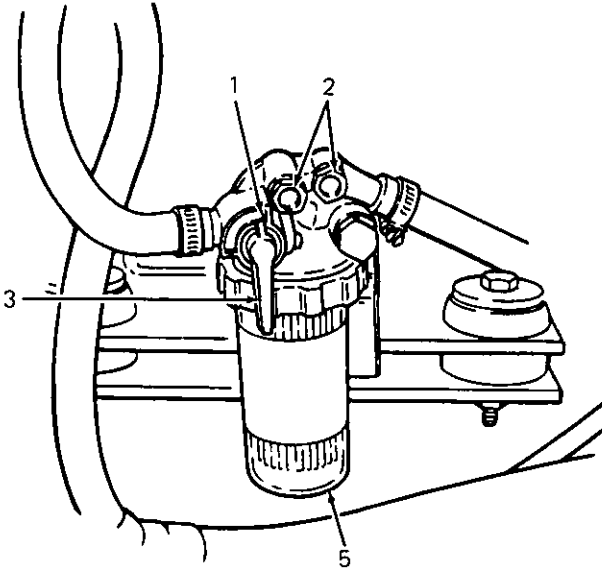

Figure 27
1. Fill the fuel tank. Open the fuel shut-off valve. (See Figures 27 and 28.)
1. Close the fuel filter bowl shut-off valve. (See Figures 27 and 28.)